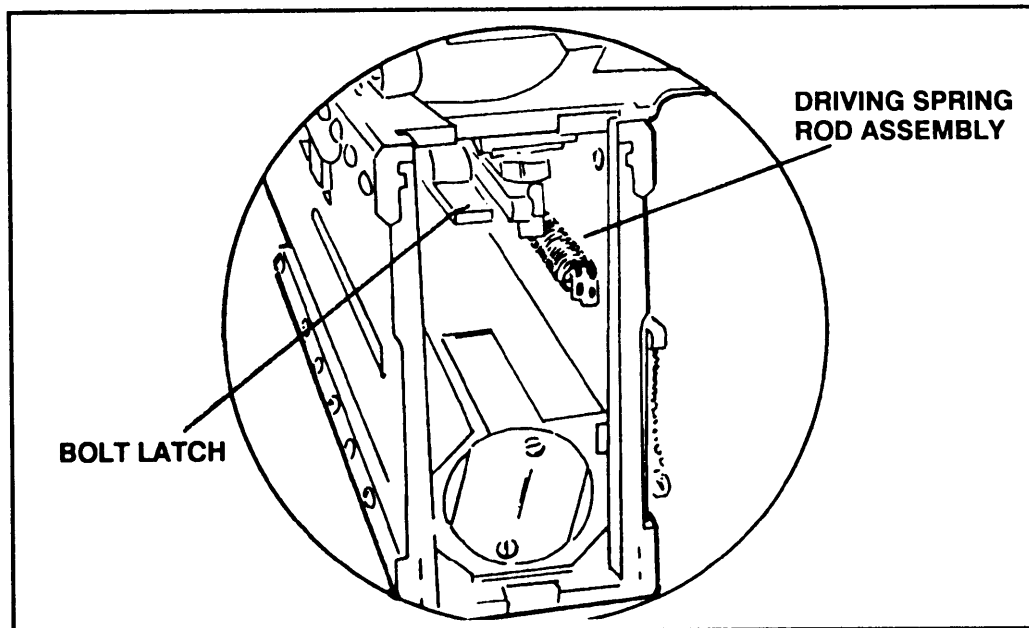

**Figure 2-7. Removing the backplate.**
b. **Backplate Group.** Ensure that the bolt latch release is up, free of the bolt latch release lock. If it is not, push down on the bolt latch release and turn the buffer tube sleeve to the right to free it (Figure 2-6). The bolt must be forward before the backplate is removed. If the bolt is to the rear, push down on the bolt latch release, place palm up on the retracting slide handle, and ease the bolt forward. The backplate latch lock and latch are below the buffer tube. Pull out on the lock and up on the latch; remove the backplate by lifting it straight up (Figure 2-7).